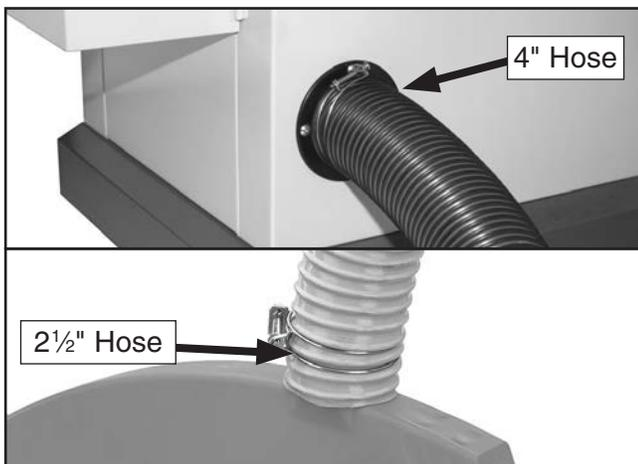

Figure 28. Dust hoses attached.
1. Secure a 4" dust hose to the dust port located under the saw table and the 2½" dust hose to the blade guard (see **Figure 28**).